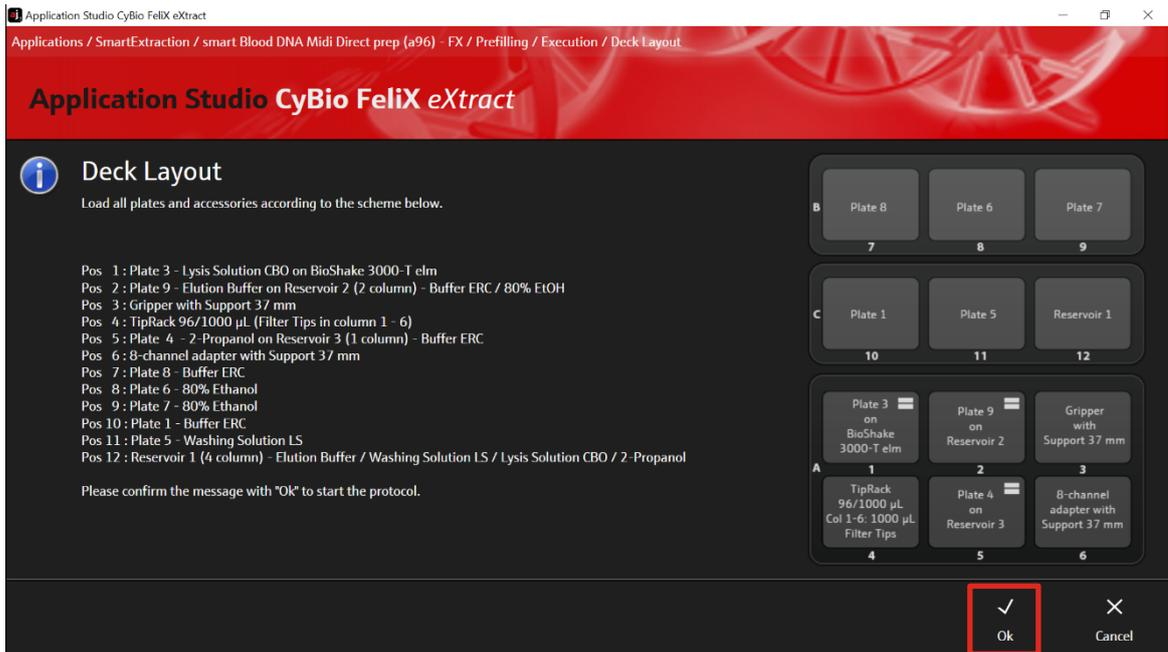

Figure 9: Deck layout for final hardware check for the prefilling.
21. Check the correct deck position of all plates, reservoirs and other hardware components (compare with list displayed in AppStudio FeliX eXtract → see Figure 9) and confirm with "Ok".